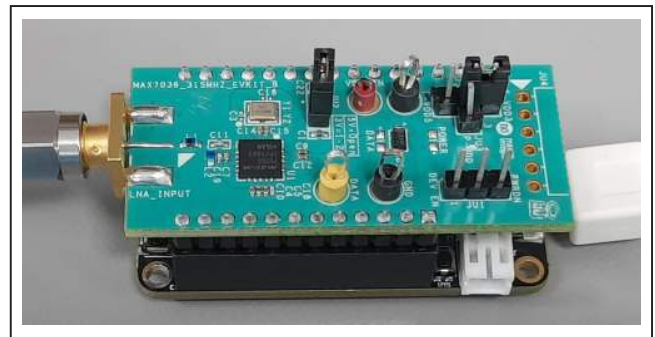

Figure 3. MAX7036EVKIT Orientation to the FTHR Board
- 2) **Connect the MAX7036EVKIT to the FTHR Board.** Ensure the USB connector is oriented on the opposite side of the SMA connector (Figure 3).
The MAX7036 EV kit Controller GUI Software is designed to control the MAX7036 evaluation kit board and MAX32630FTHR board (Figure 3). The software includes USB controls, which provide communication to the MAX7036 through the FTHR board interface.